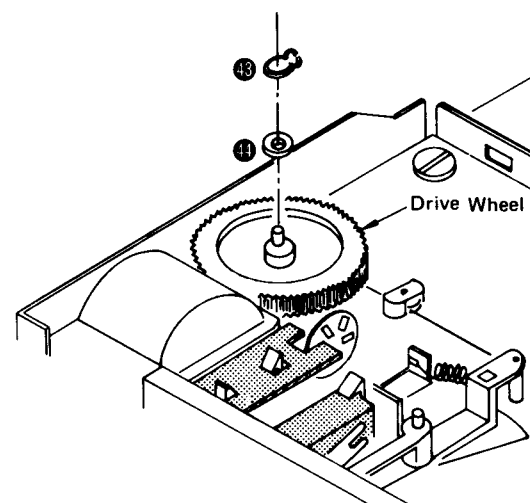

Fig. 14
3. Detach the arm drive wheel "C" ring ⑬ and washer ⑭, and remove the drive wheel. (See Fig. 14)